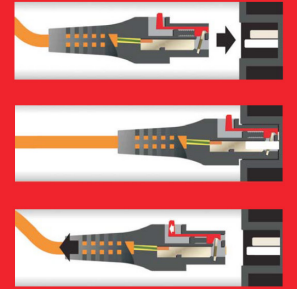

Figure 8: Frontal view of the electrical panel of the column
Connect the Power cable to the AC connector on the electrical panel of the column (Figure 8). The device can be connected at any level of voltage ranging from 90-240V~, 50/60 Hz (adjusted automatically to properly work in these ranges).
Make the connection between the multifunctional pedal cable and the electrical panel as indicated (Figure 8).
**PLEASE NOTE:** The illumination source only operates when the multifunctional pedal cable is connected to its connector (Figure 8).
- Shift the main switch on the control panel to OFF (Figure 5) and disconnect the power plug from socket (Figure 8).